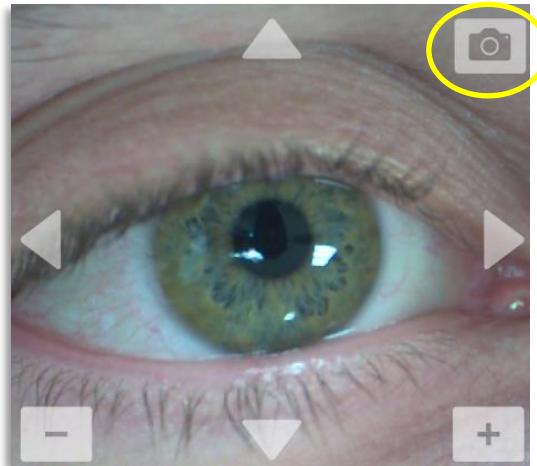

Figure 3-31. Capture d'images
- Pour capturer une image, sélectionnez le bouton de l'appareil photo dans le coin supérieur droit de l'image, comme illustré à la figure 3-31.
On the right side of the screen, there is a smaller version of the eye image from Figure 3-31, also with a camera icon in the top right corner. At the bottom, there are three buttons: "View 6 photos" (highlighted with a yellow circle), "Export treatment report", and "Done".